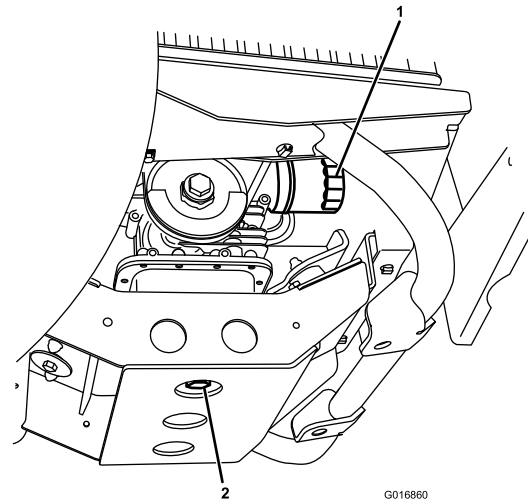

Figure 24
5. Remove the drain plug (Figure 24) and let the oil flow into a drain pan.
2. Remove the existing oil filter (Figure 24).